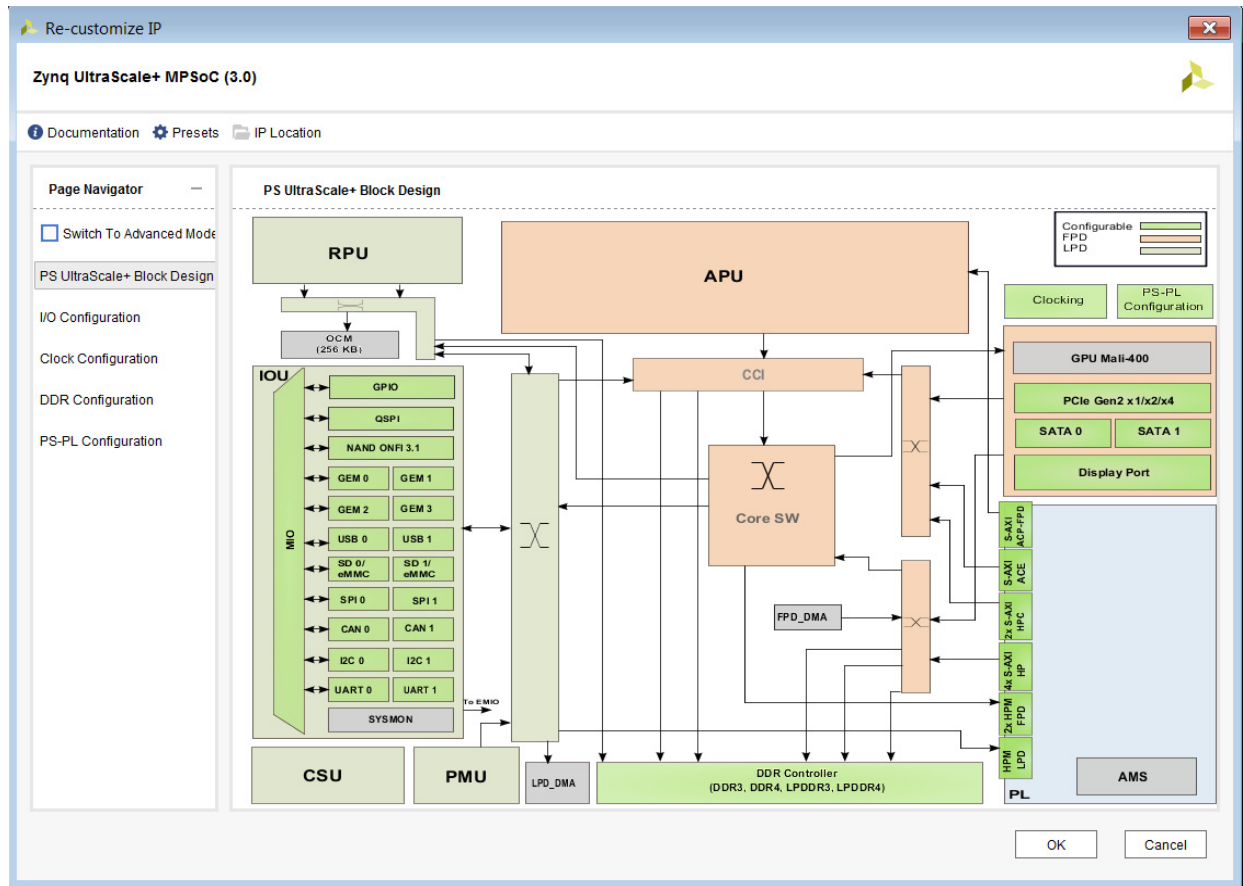

Figure 2-5: ZYNQ UltraScale+ MPSoc Configuration Dialog Box
4. Double-click the processing system graphic to invoke the **Re-customize IP** process, which displays the Re-customize IP for the Zynq UltraScale+ MPSoC dialog box as shown in Figure 2-5.
Alternatively, you can select the options from the Page Navigator on the left, as shown in Figure 2-5.